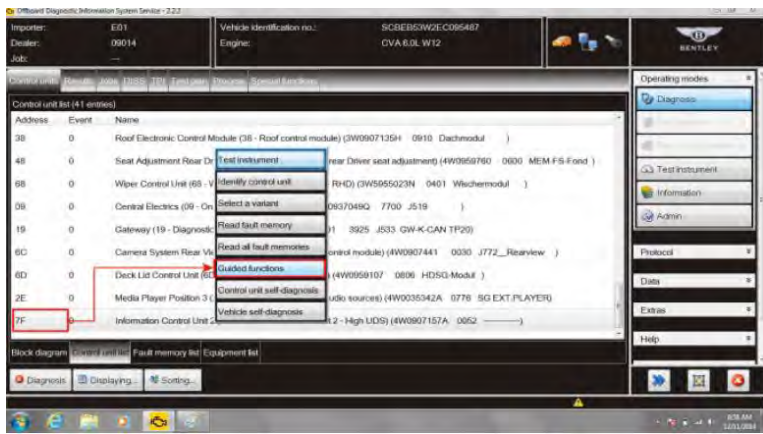

Figure 3
8. Within Control units – Select (single touch) *7F Information Control Unit 2* – Reveal drop down menu (extended touch and release), Select *Guided functions* (see Figure 3)